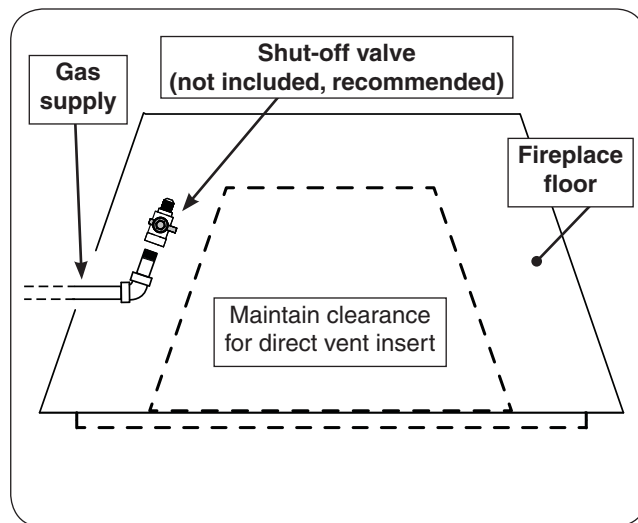

Fig. 23-1 Route gas supply
2. It is recommended that a gas shut-off valve (not included) be attached to the gas supply stub. Use a pipe compound resistant to all gasses. See Fig 23-1.